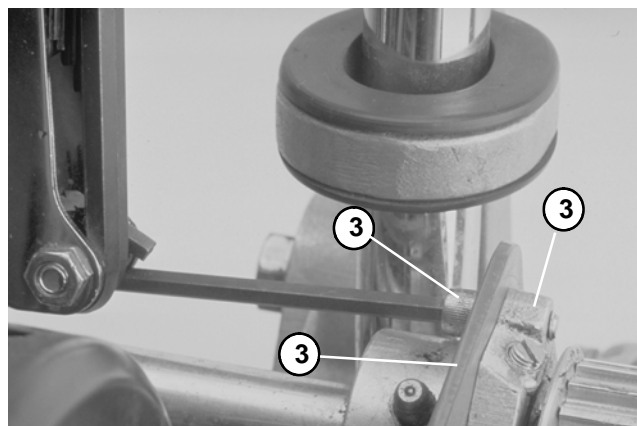

Figure 61
14. Remove three socket head cap screws and lock washers from the side plate (RH) and bearing housing (Fig. 61).
3. Secure three socket head cap screws and lock washers to the side plate (RH) and bearing housing (Fig. 61).